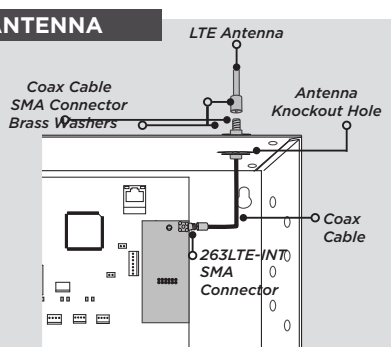

Figure 5: XR150INT/XR550INT Series Panel
4. Attach the included LTE antenna to the coax cable SMA connector. See Figure 5.